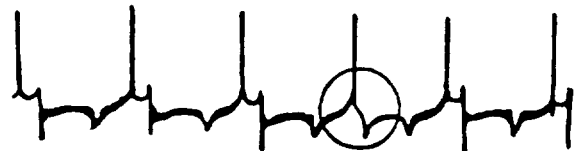

Fig. 77
4. Observe the spark line of each spark plug and look for erratic misfiring Or breakdown as shown in Fig. 77. The misfiring or breakdown will be the spark line disappearing while under load.